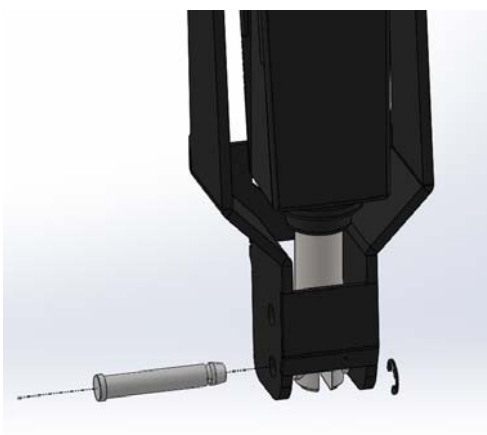

Figure 5-153
5.3.16.10 Take the tilt actuator and the fixing bracket out of the package. Insert the Clevis pin through the lower hole on the rod of the tilt actuator. Insert E ring into the slot of the pin in order to fix the tilt actuator on the fixing bracket.. (Figure 5-153)